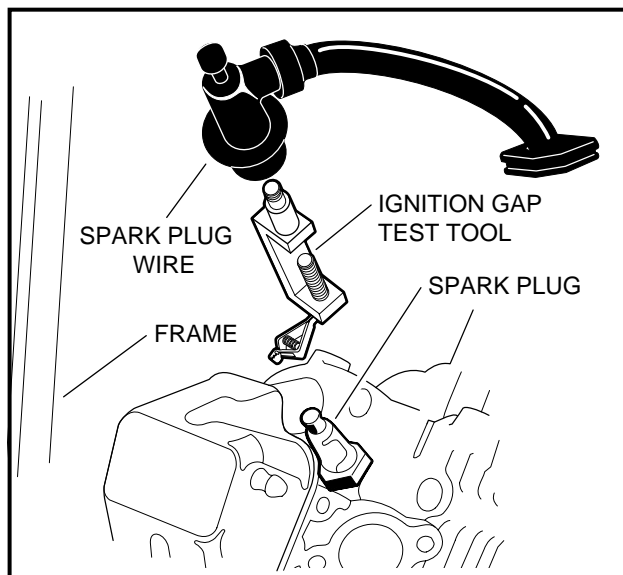

Figure 11-38 Ignition Spark Test
2. Remove the plug wire from the spark plug. Using an ignition spark gap test tool (Thexton 404[®] or equivalent), check for correct spark (**Figure 11-38, Page 11-33**).